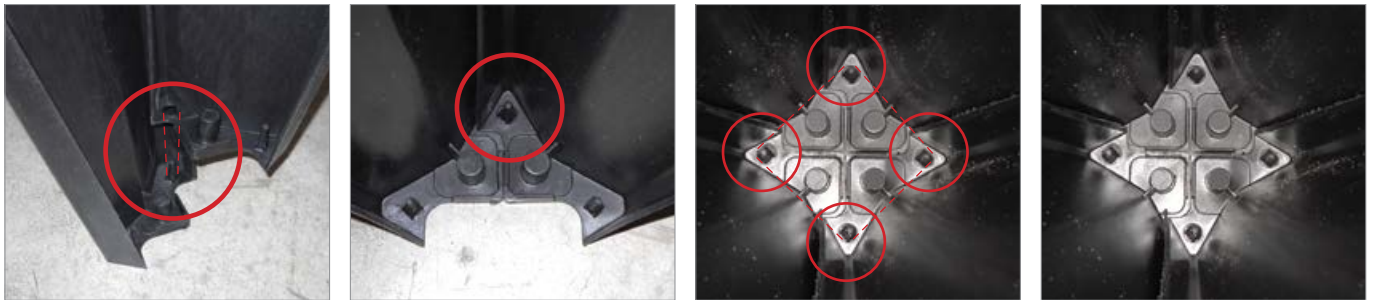

Fig. 3 - Detailed view of the male-female system linking phase - note the perfect seal of the feet.
- 3** To unite the units in sequence, be careful to perfectly link the "male-female" hooking elements at the base of the support feet (see photo sequence - Fig. 3).